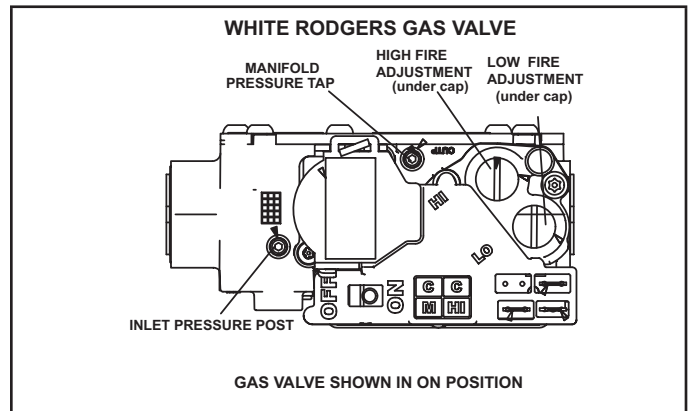

FIGURE 51
#### Gas Valve Operation (FIGURE 51)
- 6 - Move gas valve switch to **OFF**. See FIGURE 51.
- 8 - Move gas valve switch to **ON**. See FIGURE 51.
An inlet post located on the gas valve provides access to the supply pressure. See FIGURE 51. Back out the 3/32 hex screw one turn, connect a piece of 5/16 tubing and connect to a manometer to measure supply pressure. See TABLE 23 for supply line pressure.
A manifold pressure post located on the gas valve provides access to the manifold pressure. See FIGURE 51. Back out the 3/32 hex screw one turn. Follow the steps below and use FIGURE 53 as a reference. Gas manifold Kit 10L34 provides additional components if needed
- 7 - If necessary, make adjustments. FIGURE 51 shows location of high fire and low fire adjustment screws.